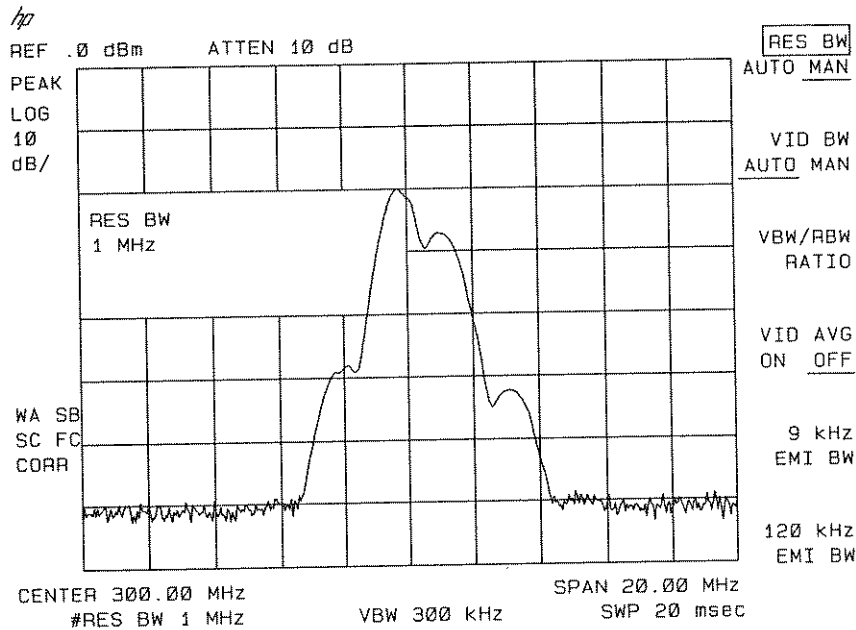

Figure 6-26. Viewing an AM Signal
2. First, center and zoom in on the signal in the frequency domain. (See "Decreasing the Frequency Span Using the Signal Track Function.") Be sure to turn off the signal track function, since the signal track function must be off for zero span. See Figure 6-26.